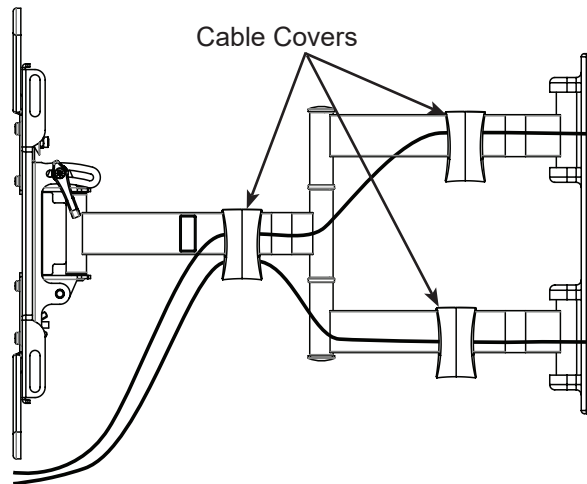

Figure 6
1. Route electrical and data cables along the Arm Assembly and secure in place using the provided Cable Covers (Figure 6).